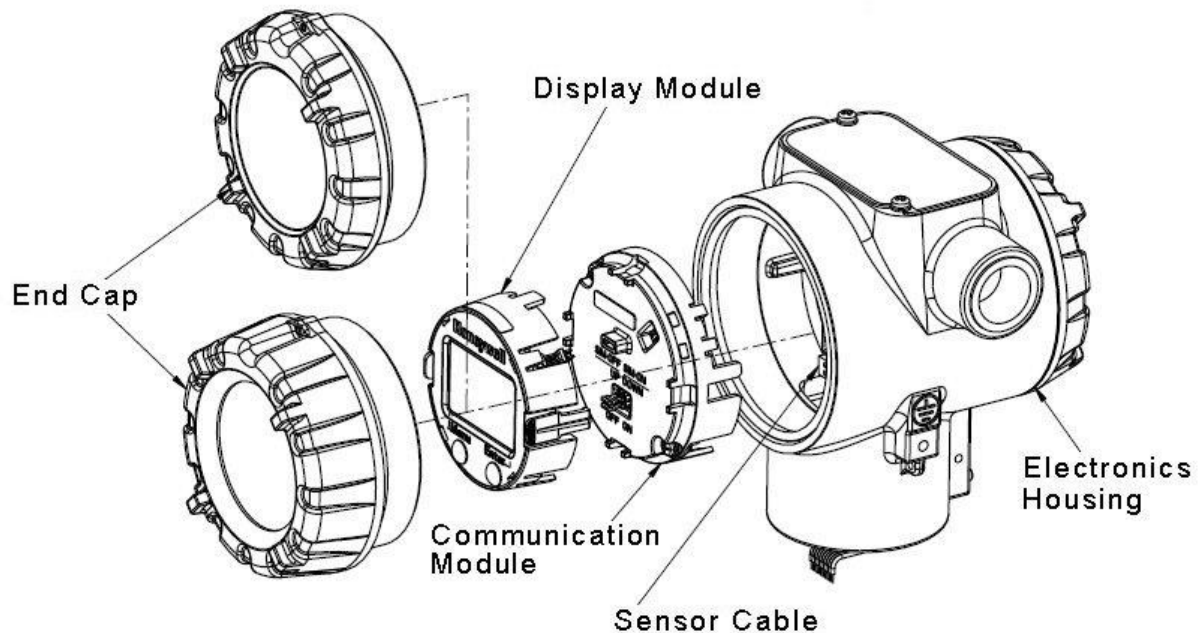

Figure 64 – ST 700 Basic Transmitter - Disassembly for Meter Body Replacement
4. Refer to Figure 64. Loosen the End Cap Lock, and unscrew the End Cap from the electronics side of the Transmitter housing.